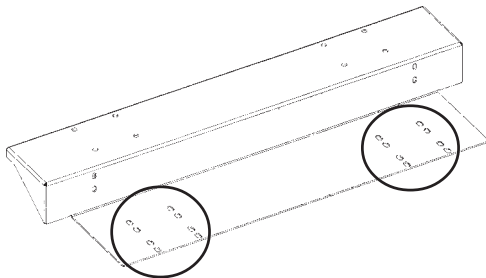

Figure 2
4. Using the hardware removed in step 3, and the caster mounting holes in the bottom of the unit, fasten the outboard caster brackets to the bottom of the unit, along with the stacking spacer, if present. (The stacking spacer should be on the customer side of the unit.) Then, using 8, 1/4-20 x 1 in. screws (from step 1) fasten the caster brackets to both sides of the unit. Figures 2 & 3.
The brackets can be used on either side, thus the 16 mounting holes in the bracket, shown in Figure 2.